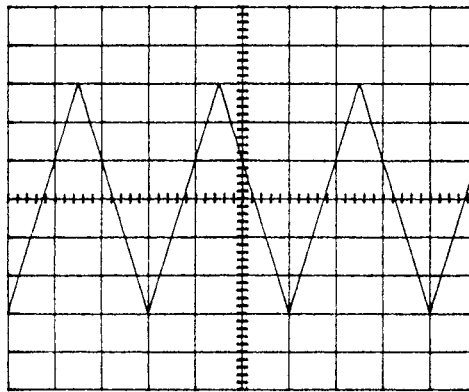

Figure 8K-1. A6 Integrator Output Signal
- Open the HP 8642 manual to Figure 8K-100. There are 3 diagrams of A6A2 (the A6 Module Counter/Timebase). Now, open the HP 8642 manual to the foldout on page 8K-102. There are 3 diagrams of A6A1 (the A6 Module FM Loop). One diagram is titled Simplified Block Diagram. It is a block diagram intended to be used to understand the basic operation of A6A1.